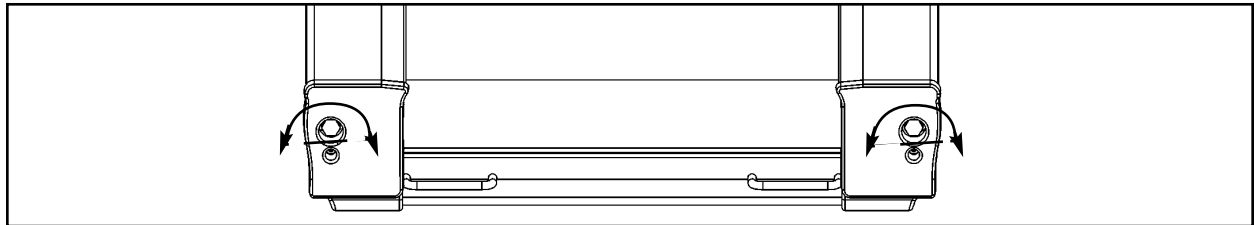

Figure 1
- A.** Use a 3/4" socket wrench to turn each bolt 1/2 turn clockwise. See Figure 1. **NOTE:** *Be sure to adjust each bolt equally on each side.*